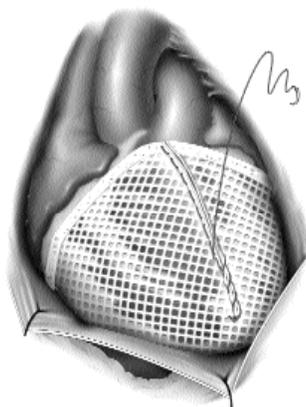

Figure 3: Reinforce New Anterior Seam
- b. Reinforce the new anterior seam by placing a running interrupted suture from the apex to the hem. (See **Figure 3.**) Redundancy while the device fit (see step this new placement